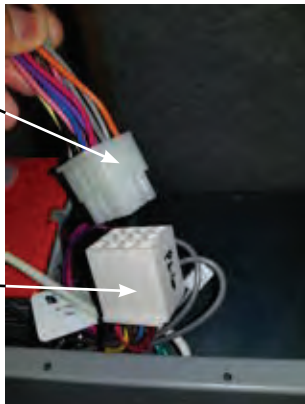

Figure 8 – Connect Economizer Harness to Unit PL6 Economizer Harness
Step 11: Remove and save the 12-pin jumper plug from the unit economizer harness – located in the upper left corner of the unit. Insert the economizer plug into the unit wiring harness. See Figure 8.